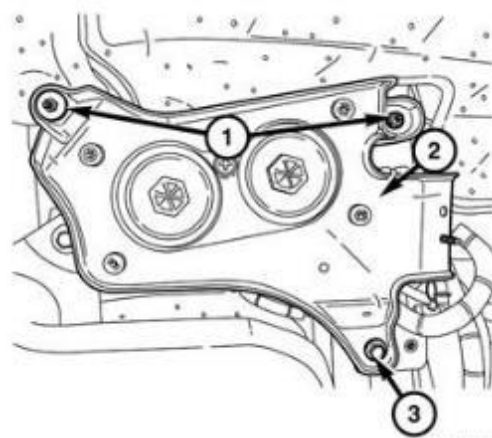

Figure 25 – Fuel Filter/Water Separator
61. Remove the nuts (1), bolt (3), and the fuel filter/water separator assembly (2) (Figure 25).